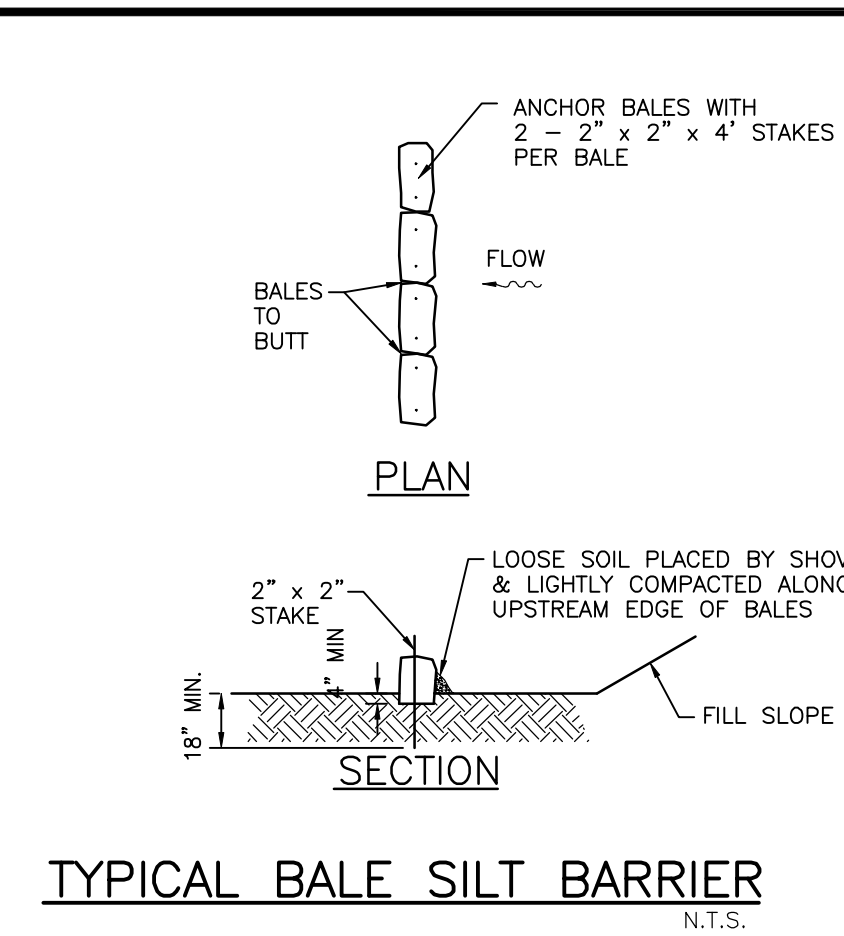

FIGURE 3
- 3 BALE SILT BARRIER (AS PER BEST MANAGEMENT PRACTICES DETAILS, FIGURE 3)